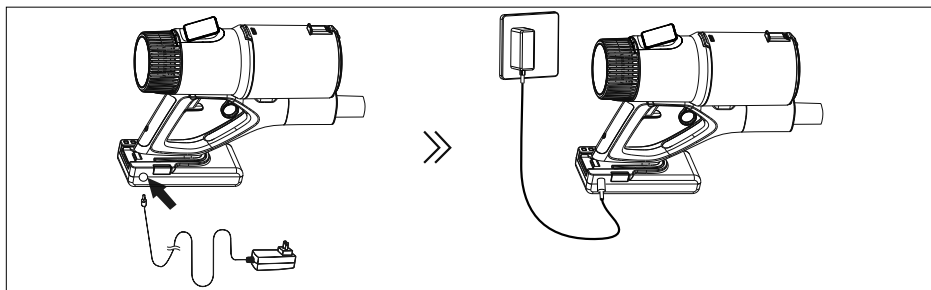

Fig. 3 – Charging on the appliance
2. Charge your vacuum cleaner using the mains power adapter (8) supplied (see Fig. 3). The charging time is approx 4–5 hours.